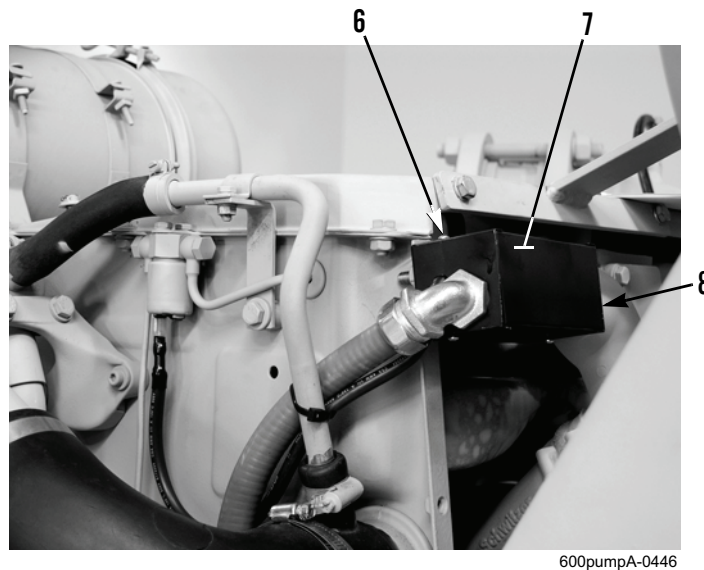

Figure 3. EMI Enclosure at Flame Glow Plug.
1. Remove four screws (Figure 3, Item 6) and cover (Figure 3, Item 7) from electromagnetic interference (EMI) enclosure (Figure 3, Item 8).